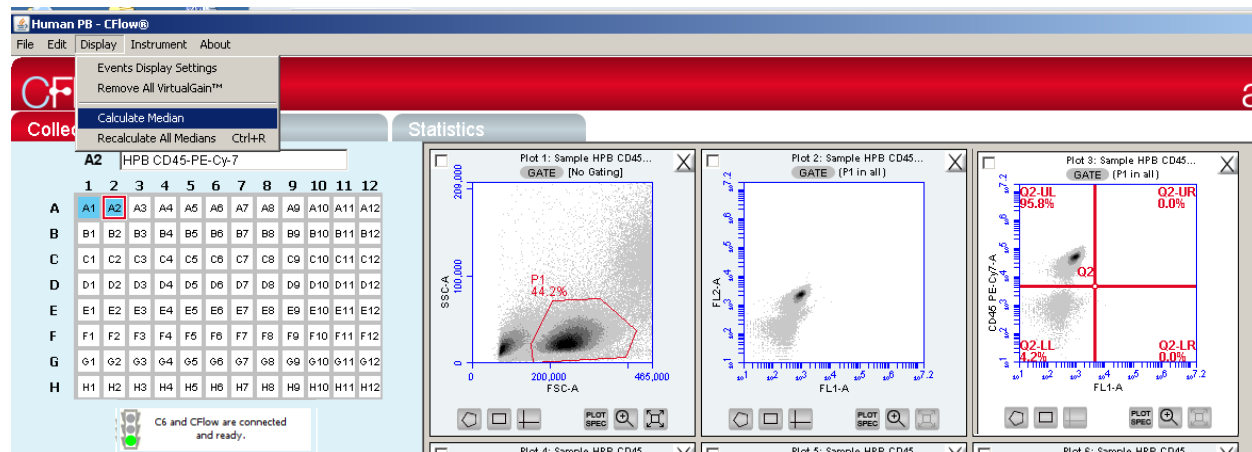

Figure 3-24 Quadrant Q2 is selected with mouse click (indicated by bold red) and Calculate Median chosen from the Display drop-down menu.
- Select **Display, Calculate Median** from the drop-down menu (Figure 3-24).